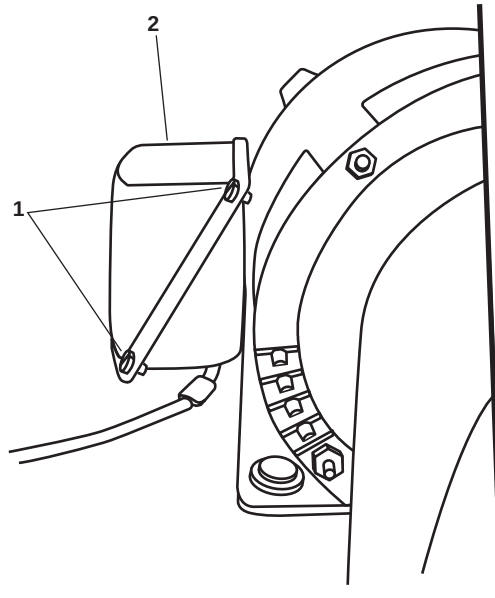

Figure 1. Electrical Junction Box
1. Remove the four screws (figure 1, item 1) from the electrical junction box cover (figure 1, item 2).
2. Remove the junction box cover (figure 1, item 2).